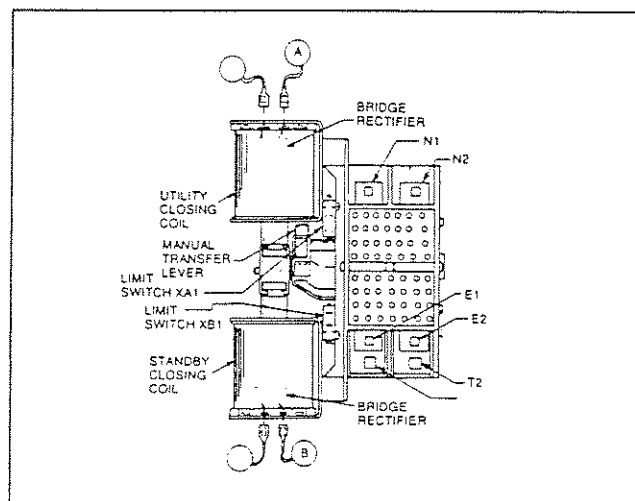

Figure 4. The "V-Type" Transfer Mechanism
See Figure 4. This coil is energized by rectified utility source power, to actuate the load contacts to the "Utility" power source side. When energized, the coil will move the main contacts to an "overcenter" position. A limit switch will then be actuated to open the circuit and spring force will complete the retransfer to "Standby". A bridge rectifier, which changes the utility source alternating current (AC) to direct current (DC), is sealed in the coil wrappings. If coil or bridge rectifier replacement becomes necessary, the entire coil and bridge assembly should be replaced.